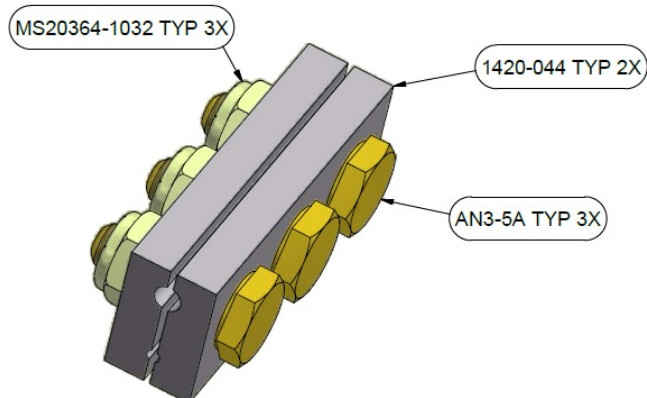

Figure 2-24
- 1.38.1. Loosely assemble two cable clamps as shown in Figure 2-24.